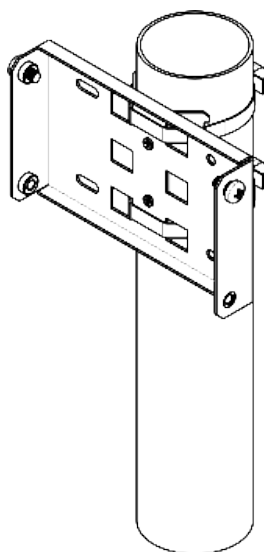

Figure 9 – Mounting bracket on a mast/pole
a) Fix bracket on mast/pole by using clamps, see Figure 9.
b) Install DIN7985 M6 screws in the top holes. Do not screw them fully. Leave at least 3 mm gap, see Figure 9.